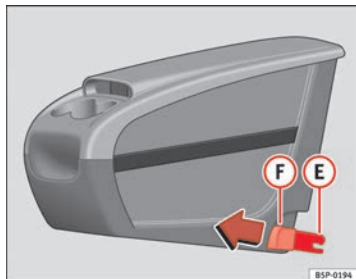
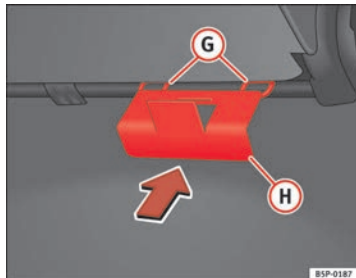

Fig. 112 Mobile storage compartment. Installation
Fig. 113 Mobile storage compartment mounting plate
- Fit the mobile storage compartment mounting plate (H) ⇒ fig. 113 from the inside of the vehicle, through the rear section of the seat. It should be fitted between the backrest and the seat, in the central seat area.
- Set both mounting pieces together (E) ⇒ fig. 112, with both mounting rings (G) ⇒ fig. 113 and press hard until both the clips completely connect with the rings.
- Pull each of the buttons ⇒ fig. 112 (F) on the clips (red buttons) forwards, until they snap out of place.